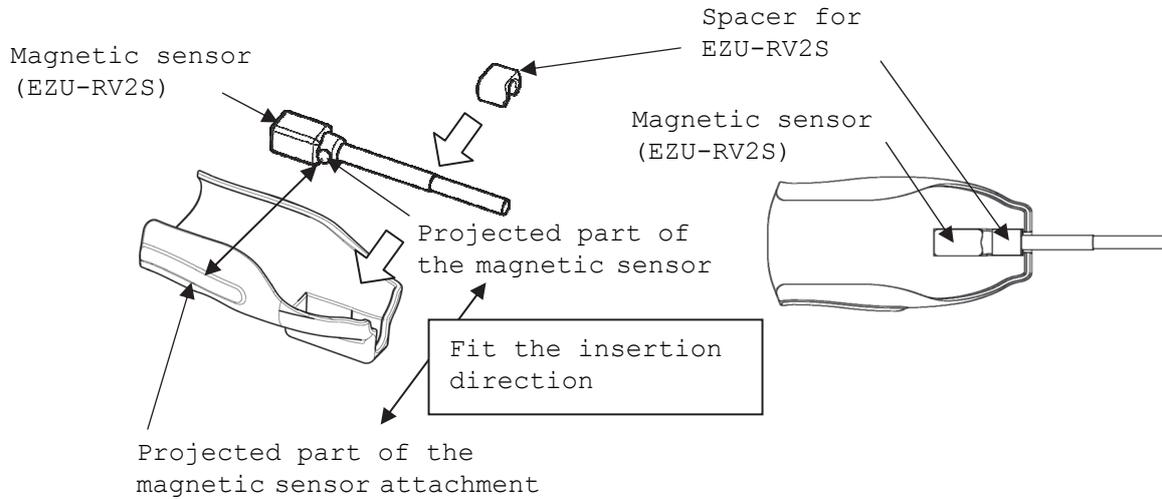

Fig. 6 How to attach the Magnetic sensor
- b) Insert the magnetic sensor into the magnetic sensor attachment at the correct direction as shown in Fig. 6.